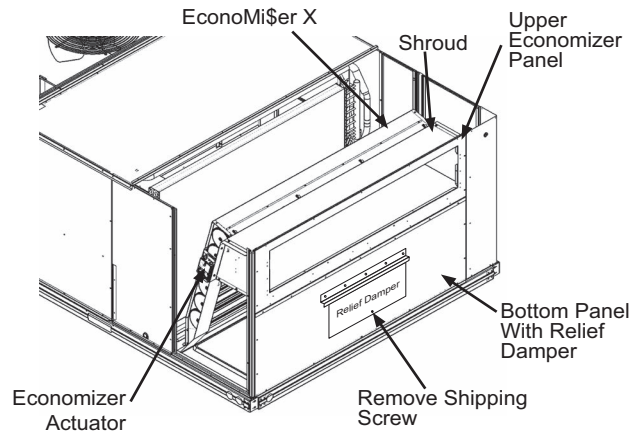

Fig. 8 — Bottom Panel Installation
9. Install the bottom panel with the relief damper attached on the unit. (See Fig. 8.) Screw the panel in place.